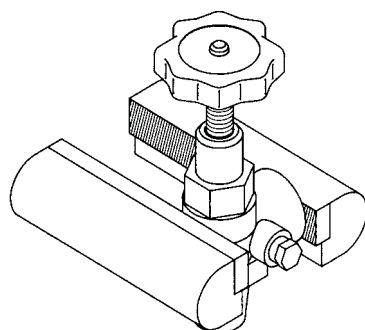

Figure 1
1. Place the adapter valve in the vise so that the handwheel is up and the valve outlet is held flat against one of the vise jaws. DO NOT OVERTIGHTEN. Overtightening the vise can distort the valve body, making it difficult to remove the bonnet and stem assembly. Should this occur, the entire valve must be destroyed so it cannot be reused. See Figure 1.